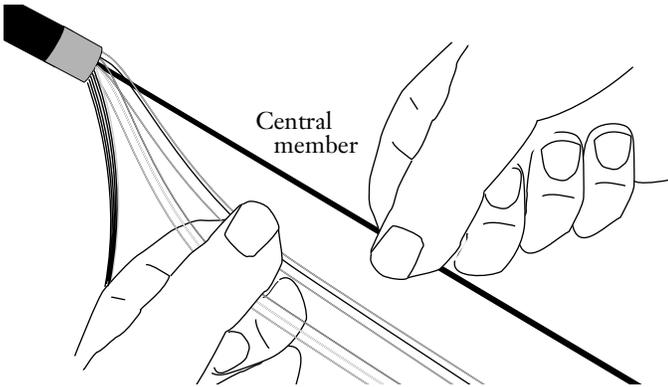

Figure 16
- a) Working from the end of the cable back to the tape mark, carefully unwind the buffer tubes from around the central member of the cable (Figure 16). Be careful not to bend or kink any of the buffer tubes.